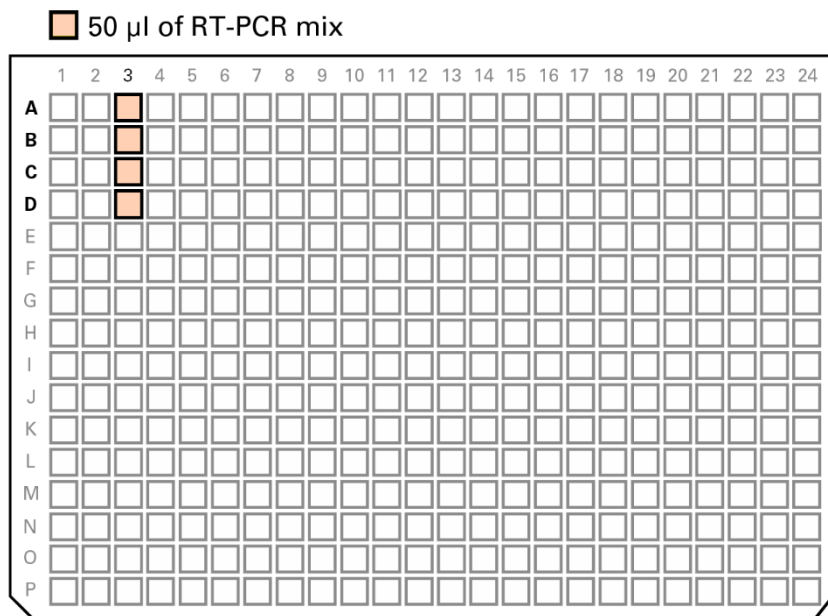

Figure 13. Setting up the source plate for dispensing RT-PCR mix.
- Pipette 50 µl of the RT-PCR reaction mix into wells A3, B3, C3, and D3 of a 384-Well Source Plate, as shown in Figure 13.